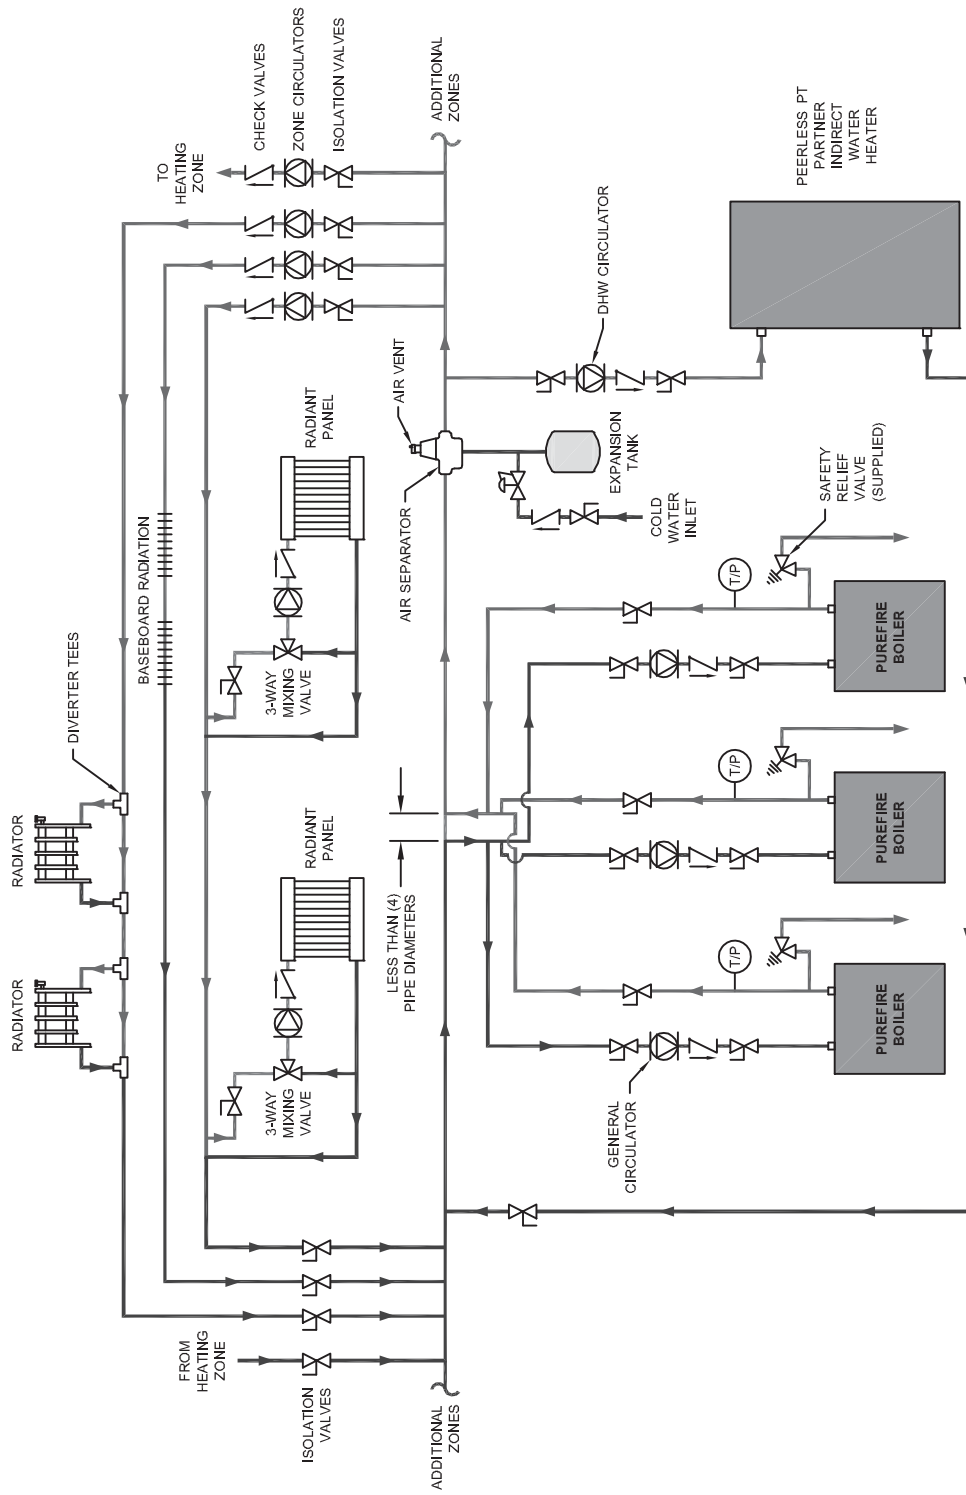

Figure 4.8: Three Boilers, Primary/Secondary with Five Zones (Zone Circulator)
- 4. Figure 4.8 shows a multiple boiler system with several different types of heat distribution units. This system illustrates how different temperature zones can be supplied from the same source by blending supply and return water to the zone.